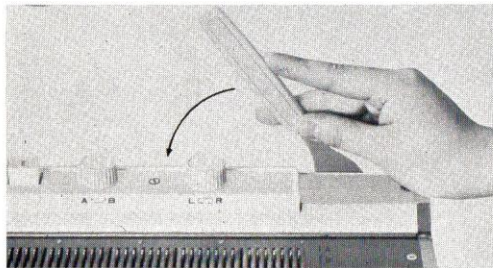

Fig. 7
- (3) Swivel the set-lever to the left as far as it will go, then the corresponding needles will be raised up to position "D". (See Fig. 7)
- (4) Move the carriage with setting for plain knitting